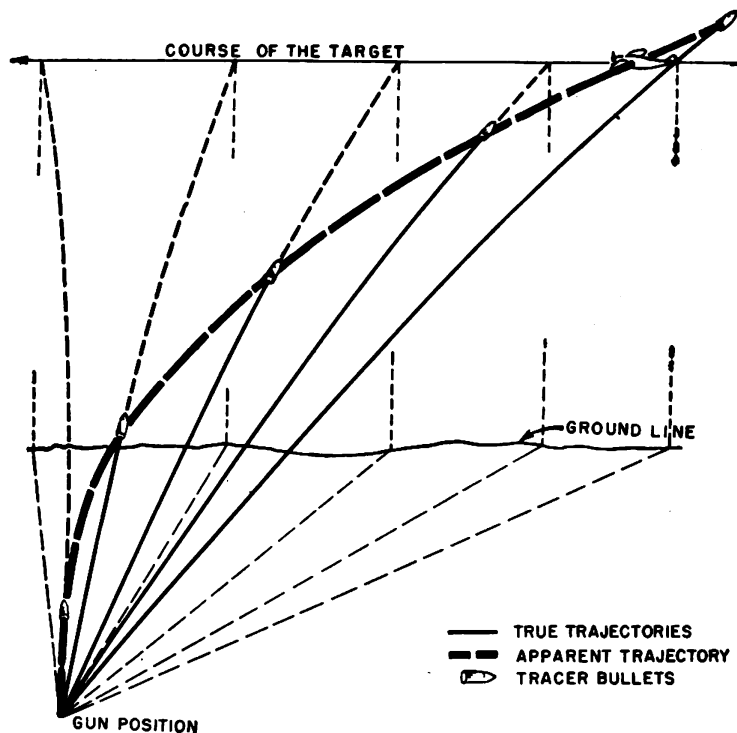

FIGURE 76.—Apparent tracer trajectory.
(1) It must be simple in operation.
(2) It must be accurate.
(3) It must be rapid in operation.
Q. Explain why the tracer trajectory appears to curve to the left when firing on a left to right course but appears to curve to the right when firing on a right to left course. *A.* This apparent curvature of the trajectory is purely an optical illusion caused by observing, simultaneously, tracers fired at successive azimuths and by the movement of the airplane with respect to each tracer as it travels along the trajectory (fig. 76). The faster the airplane is traveling, the more pronounced the curve will be.